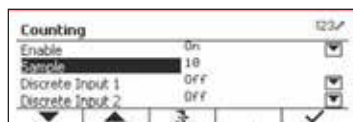

Figure 54
4. Select the list item and press the button corresponding to the  icon to change the setting as desired. After completion of I/O's setup, press the softkey corresponding to the  icon to return to the main application screen. (See Figure 54)